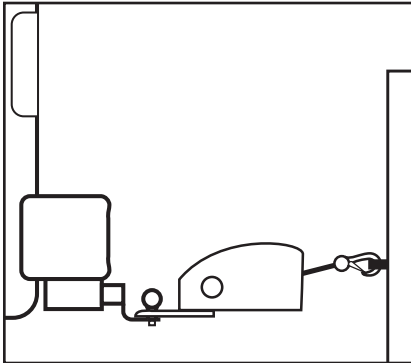

Figure 3. Winch temporary mount.
2. Attach the mounting plate assembly to a trailer hitch or vehicle by inserting the trailer hitch ball through the shaped hole in the mounting plate as shown in **Figure 3**.